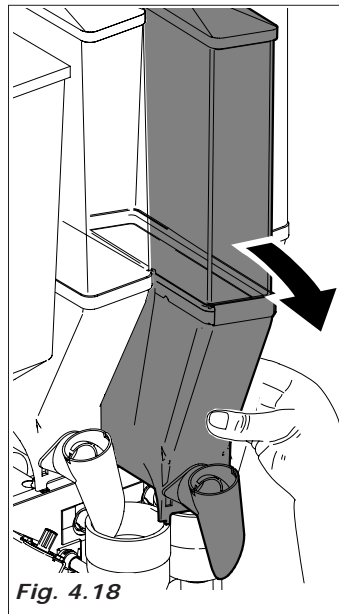

Fig. 4.18
- remove all the product containers from the distributor (Fig.4.18)